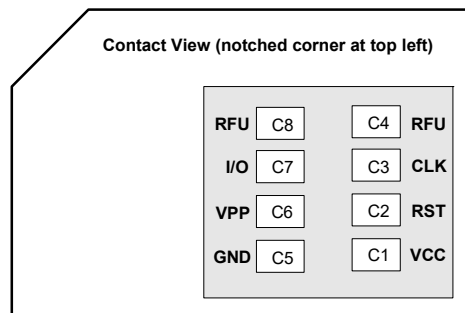

Figure 3-5: SIM Card Contacts (Contact View)
a. See Figure 3-5 on page 35 for SIM card contacts.